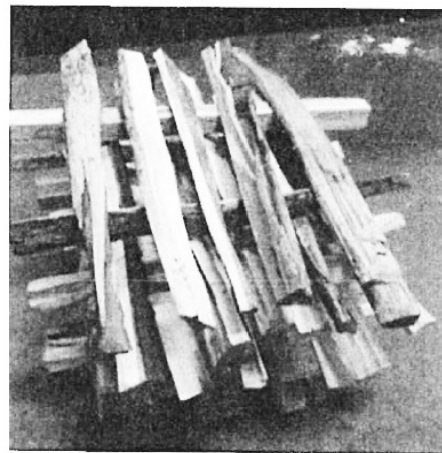

Figure 34. Criss-Cross Pattern
1. Cut and split kindling pieces approximately 16” long. The recommended piece size is 1/2 ” - 3/4” in cross section. Cut and split kindling pieces at 12” long and about 1/2” in cross section. The kindling should be very dry and the total weight would be about 3-1/2 lbs. if hardwood. A recommended stacking arrangement of the fuel pieces is shown in Figure 34.